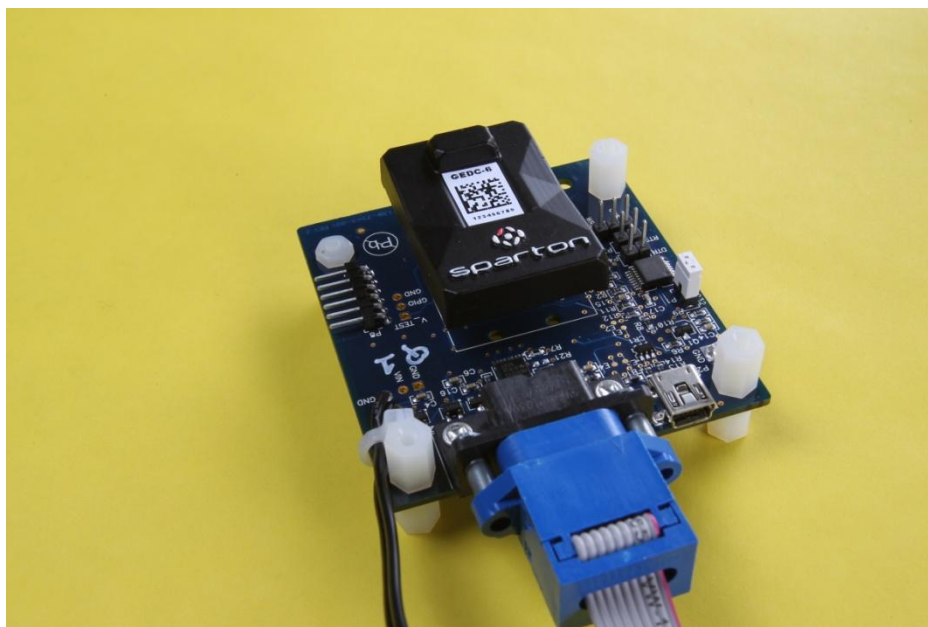

FIGURE 1: NDS-1 ADAPTER BOARD
The NDS-1 Adapter Board is shown in Figure 1 with the navigation sensor module installed.
- 5) Install the Sparton navigation sensor module (DC-4, GEDC-6) into the NDS-1 Adapter Board connector (the connector is keyed) per Figure 1.
- 7) The NDS-1 Adapter Board has several jumper blocks (Figure 1) as noted by Adapter Boards silkscreen as P1, P3, P4 and P7. These connectors are further described in the NDS-1 Navigation Development System Users Guide. Follow the applicable instructions below depending upon whether USB or RS232 cable connectivity is chosen.